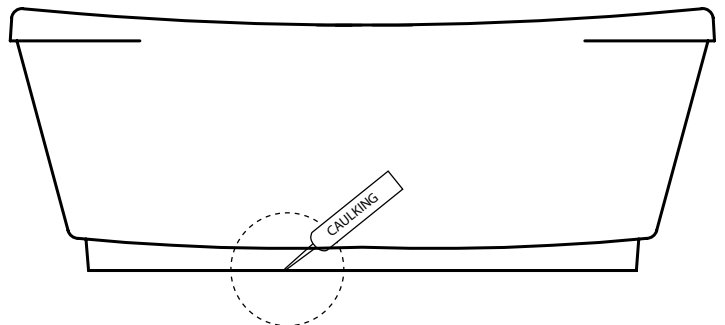

Figure 9
21. Run a bead of tub and tile caulk around the bottom edge of the bathtub where it meets the floor. Wipe off any excess caulk with a wet cloth (figure 9). If the tub must be uninstalled for maintenance or repair completely remove the caulking. Afterwards thoroughly clean the bottom of the shell and reapply caulking.